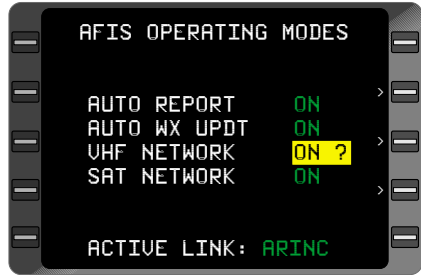

Figure 7-95
5. **BACK** Key - DEPRESS. **ON?** appears in the cursor. (Figure 7-95)